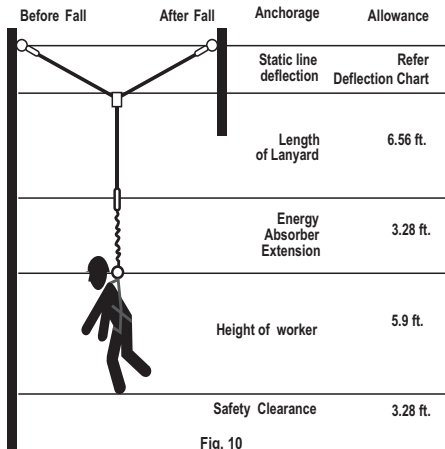

Fig. 10
**Fall Clearance:** There must be sufficient clearance below the anchorage connector to arrest a fall before the user strikes the ground or an obstruction. When calculating fall clearance, account for a MINIMUM 4ft safety factor, deceleration distance, user height, length of lanyard/SRL, and all other applicable factors as shown in in Fig. 10.